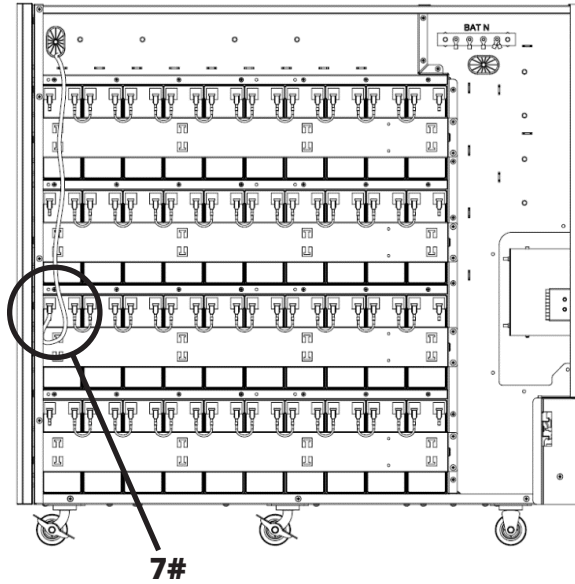

Figure 5-18B
26. Connect group 2 battery 20- to - battery bus bar (BAT -) (Figure 5-18B).